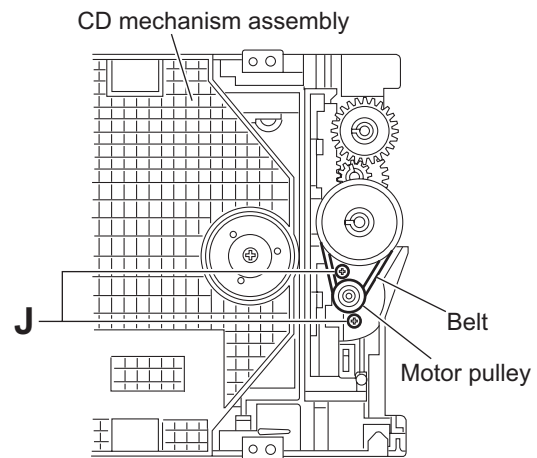

Fig.15
- (1) Remove the wire from solder part **u** of the switch board from bottom side of CD mechanism assembly.
- (2) Remove the belt of motor pulley from upper side of CD mechanism assembly. (See Fig.15)
- (3) Remove the two screws **J** attaching the motor to CD mechanism assembly and take out the motor from bottom side of CD mechanism assembly. (See Fig.15)